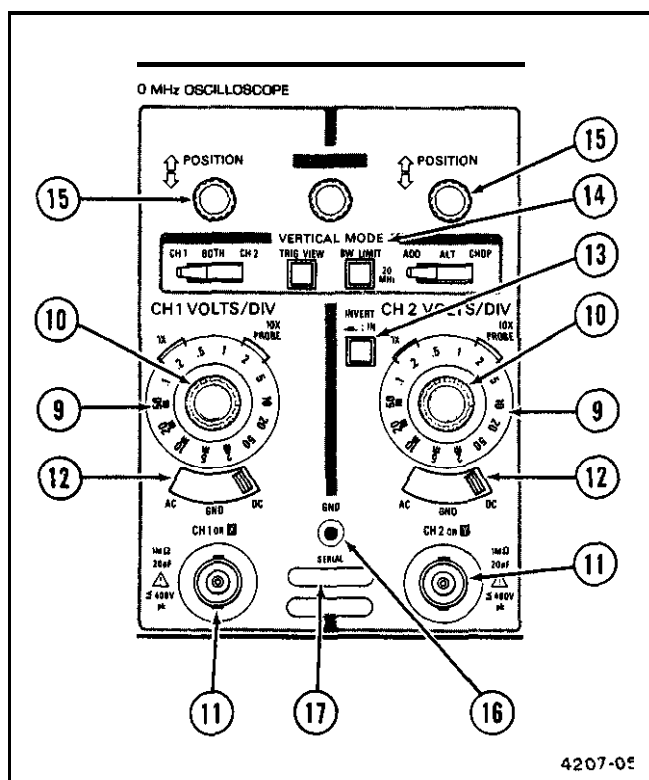

Figure 2.4. Vertical controls and connectors.
Refer to Figure 2.4 for location of items 9 through 17.
- ⑨ CH 1 VOLTS/DIV and CH 2 VOLTS/DIV Switches-- Used to select the vertical deflection factor in a 1-2-5 sequence. To obtain a calibrated deflection factor, the VOLTS/DIV variable control must be in the calibrated (CAL) detent (fully clockwise).'